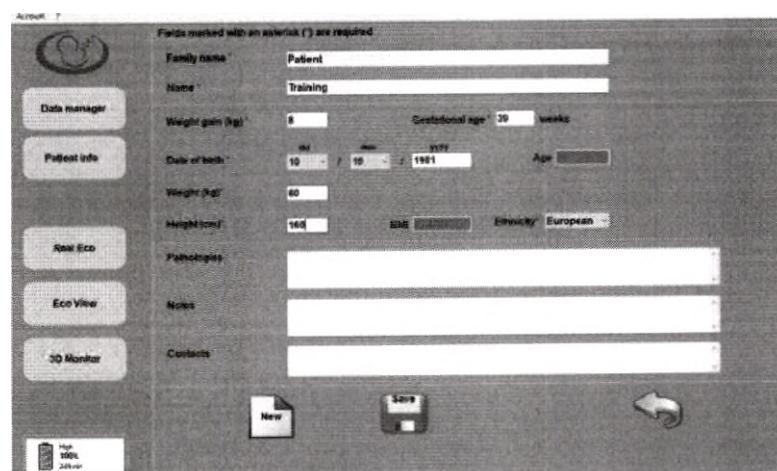

Figure 48. Inserting of information.
2.2. Create a new patient by entering the required information (Fig. 48):